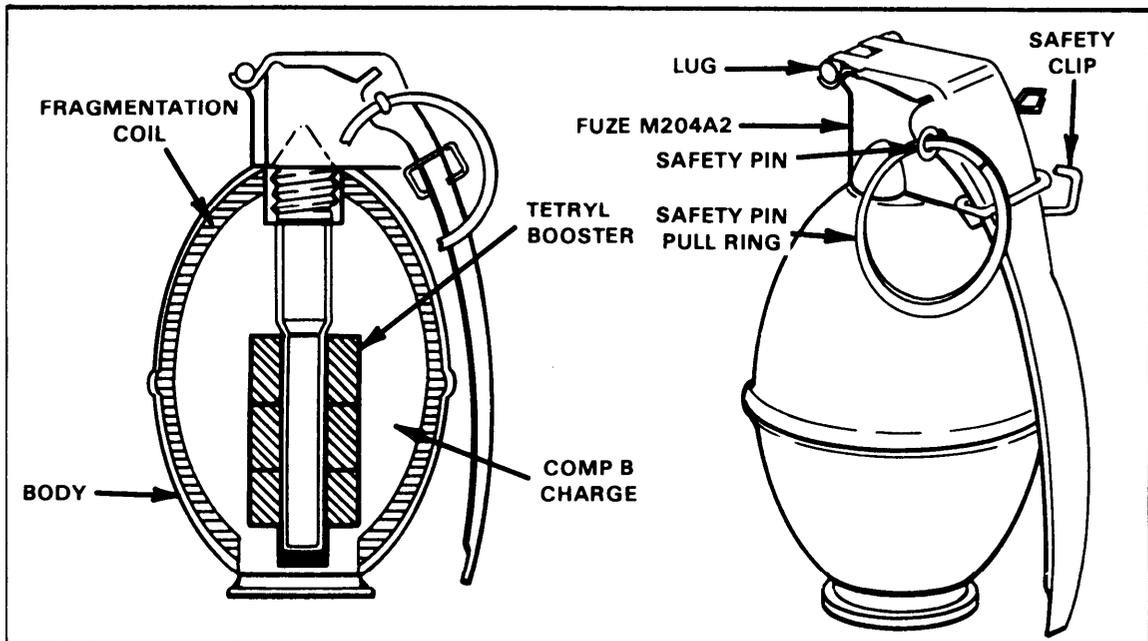

Figure 1-9. M61 fragmentation grenade.
a. M61 (Figure 1-9).
(1) Body -- thin sheet metal. Fragments are produced by a serrated wire coil fitted to the inside of the grenade body.
(2) Filler -- 5.5 ounces of Composition B.
(3) Fuze -- M204A1 or M204A2.
(4) Weight -- 16 ounces.
(5) Safety clip -- yes, see paragraph 1-3.
(6) Capabilities -- can be thrown 40 meters by average soldier. The effective killing radius is 5 meters and the effective casualty-producing radius is 15 meters.
(7) Color/markings -- olive drab body with a single yellow band at the top. Nomenclature and or lot number markings are in yellow.